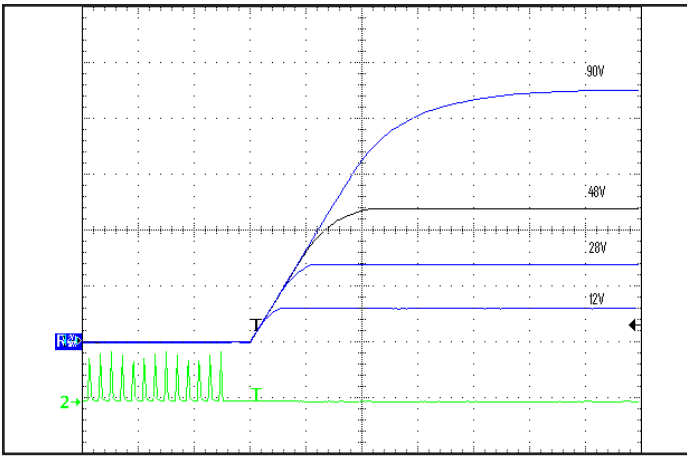

Figure 7: Turn-on transient at 48V input; full load (10ms/div). Top Traces:  $V_{out}$  (20V/div). Bottom Trace: ON/OFF input (5V/div)
**REMOTE ON/OFF:** Only Negative On/Off logic is available in the converter series: logic high at the input turns the converter Off while a logic low turns in On. Timing of this is shown in Figures 7, 8. A high level can be driven to any voltage between 1.5V and 3.3V, or simply left floating as the unit contains an internal 25KΩ pull-up to 5.0V. The pin can be pulled low (to  $V_{sense-}$ ) by an optocoupler, an open-source/drain transistor or wired permanently to  $V_{sense-}$ . To provide noise immunity the input has 0.3V of hysteresis.